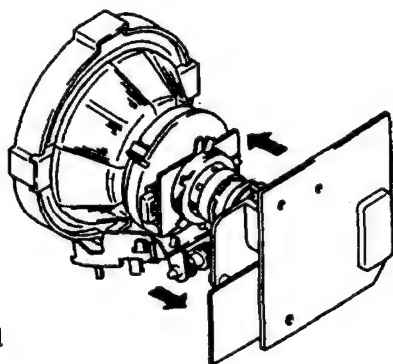

Fig. 3-1
(See Figures 3-1 through 3-3.)
5. Move the deflection yoke forward and adjust so that entire screen is red. (See Figure 3-1.)